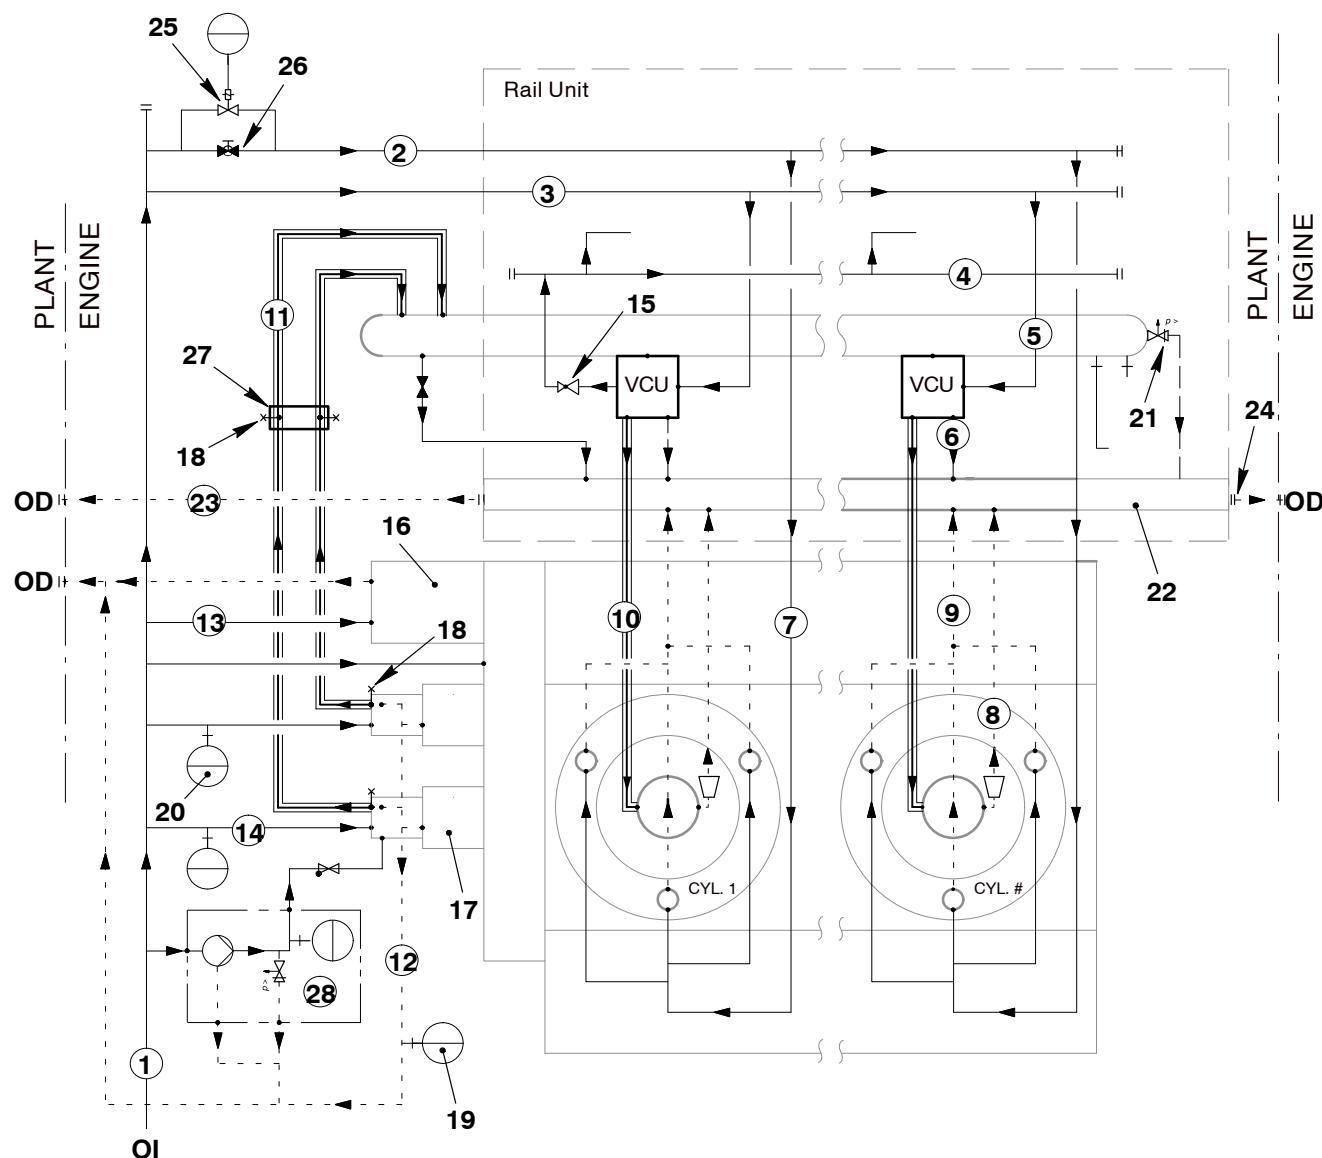

Fig. 3: Servo Oil System
Oil flows through the oil pipe (1, Fig. 3) (bearing drive) and the supply pipe (14) to the servo oil pumps (17).
Key to Fig. 3
Leakage oil from the HP servo oil pipes (11, Fig. 3) drains through the leakage oil pipe (12).
If there is a leak in the HP servo oil pipes, the leakage inspection points (18, Fig. 3) are used to find the pipe that has the leakage.